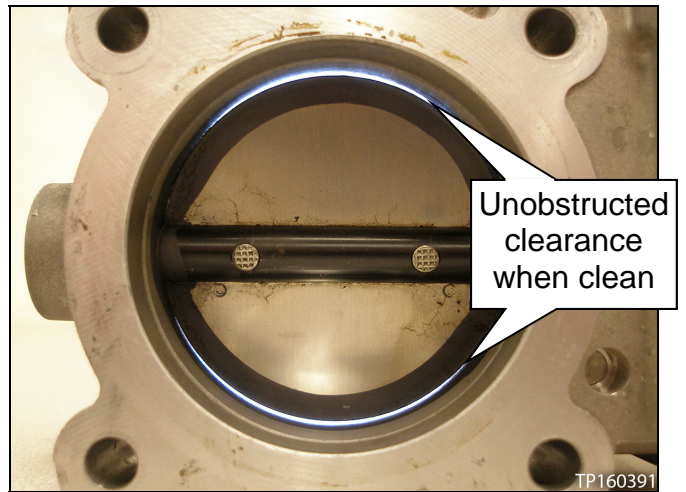

Figure 6a
5. The cleaning is complete when unobstructed clearance is seen between the throttle valve and chamber (see Figure 6a).